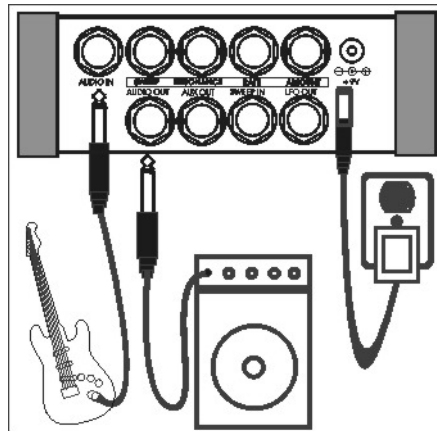

Figure 1. Basic connections: Instrument to AUDIO IN, monitor amp to AUDIO OUT, and power adaptor to +9V.
3. Note that the BYPASS light is on. It will light up either red or green. Red indicates that the MF-103's phaser circuit is off-line (bypassed), while green indicates that the phaser circuit is on-line. Pressing the 'stomp switch' will toggle the BYPASS light between red and green. For now, leave the BYPASS light on red. Refer to Figure 1 for steps 4. and 5.